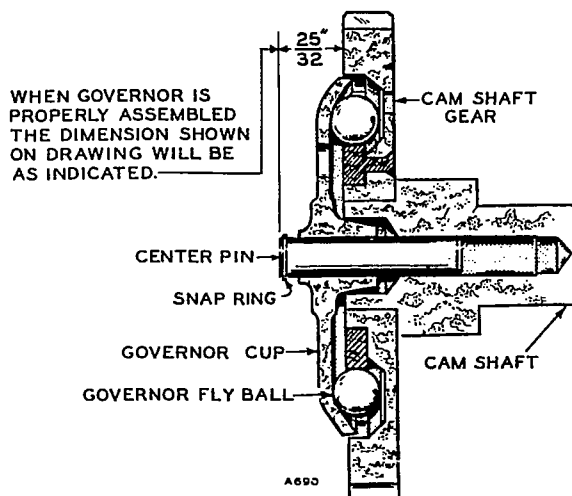

FIGURE 47. GOVERNOR CUP
3. Turn governor cup so stop pin in gear cover will fit into one of the holes in the cup surface (Figure 47). Measure distance from end of stop pin to mounting face of cover. It should be 25/32 inch (19.844 mm). If it is not, replace pin. Pin should be positioned with open end facing crankshaft seal.
To remove the governor cup, remove the snap ring from the camshaft center pin and slide the cup off. Be sure to catch the ten flyballs that will fall out when the cup is removed. Figure 47 shows the governor cup.